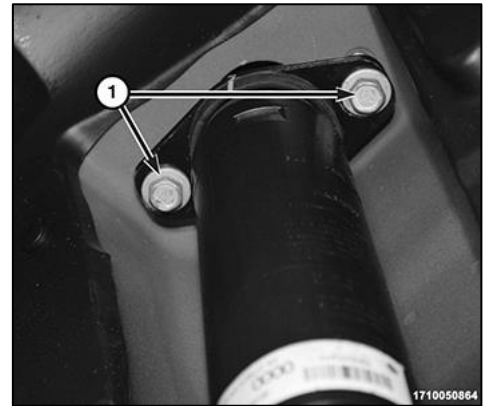

Figure 13
23. Remove shock absorber upper bolts (1). <Figure 13>